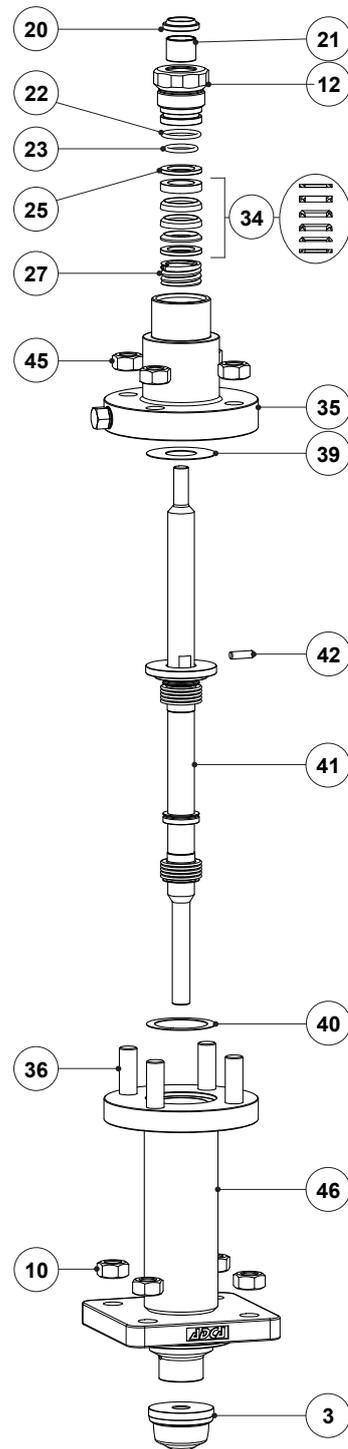

Fig. 12 - Bellows sealing (BV1)
1. Undo the nuts (45) gradually in a crisscross pattern and separate the bellows bonnet (35) from the bellows housing (46).
2. Unscrew the packing nut (12) and remove it carefully together with the O-rings (22, 23).
4. Apply a suitable lubricant to all steam sealing components and carefully slide them into the packing box according to Fig. 12.
5. Renew the scraper ring (20), plain bearing (21), and O-rings (22, 23) if necessary. Fit the O-rings (22, 23) and the plain bearing (21), screwing it loosely.
6. Undo the nuts (10) gradually in a crisscross pattern and separate the bellows housing (46) from the valve body (1).
7. Firmly fix the valve plug (3) on a vise, fit a wrench on the two slits close to the locking pin (42), and unscrew the plug (3) from the stem (7).
8. Remove the valve stem (7) with the bellows (41) from the bellows housing (46).
10. Fix the new valve plug (3) on a vise with the thread facing up. The vise jaws should be gripping the plug section with the largest diameter.
11. Fit a new gasket (39) and insert the new bellows (41) on the bellows housing (46).
12. Apply a suitable high-temperature adhesive compound on the lower stem (7) thread and screw it onto the seat, tightening with 50 Nm (DN 15 to 50 – 1/2" to 2") and 120 Nm (DN 65 to 100 – 2 1/2" to 4").
13. Insert the pin (42) onto the stem (7) and fit a new gasket (39).
14. Align the center of the bellows bonnet (35) with the stem (7), sliding it carefully while aligning the pin (42) with the slit.